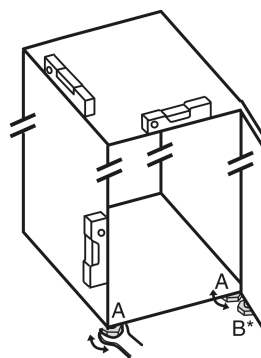

Fig. 2
- ▶ Unscrew the adjustable feet Fig. 2 (A) using the enclosed open-end spanner and a spirit level until the appliance is firmly aligned and level.
- ▶ Unscrew the adjustable foot Fig. 2 (B) on the swap bearing block with the enclosed open-end spanner until it rests on the floor.
- ▶ Turn the adjustable foot Fig. 2 (B) 90° further.